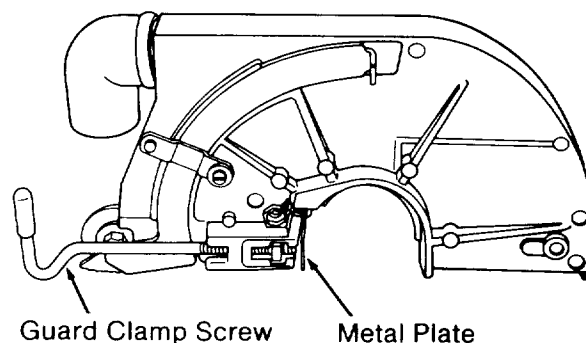

Fig. 123
1. Loosen the *guard clamp screw* until it no longer touches the *metal plate*. (Figure 123)